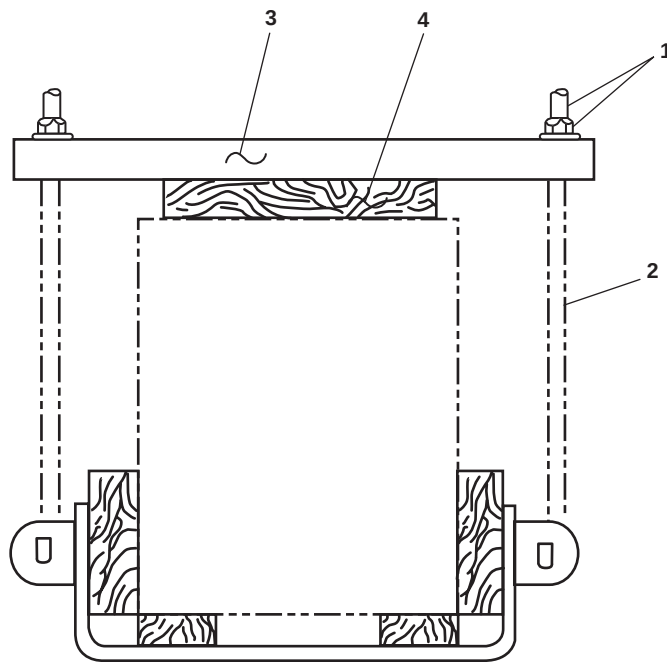

Figure 1. Battery Replacement
1. Remove the hex nut and flat washer (figure 1, item 1) from the J-bolt (figure 1, item 2).
2. Remove the battery hold down (figure 1, item 3).
3. Remove the wood spacer bar (figure 1, item 4).
6. Install the wood spacer bar (figure 1, item 4).